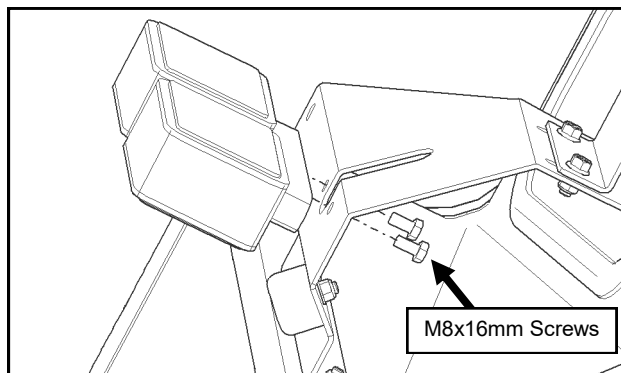

Fig. 17.1 (Assemble OEM Side Lights to Cab)
- 17.1** Mount the left rear light to the light mount bracket. Ensure the light is right side up with amber at the top and the brake light facing backward, as the light can easily be flipped by accident. Tighten hardware. See figure 17.1.